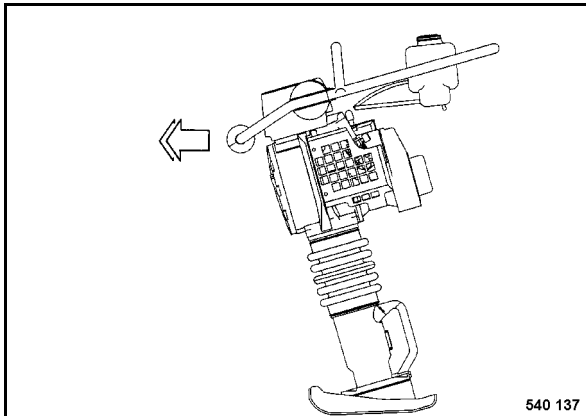

Fig. 20
- The travel speed can be influenced by altering the load on the steering handle (Fig. 20).